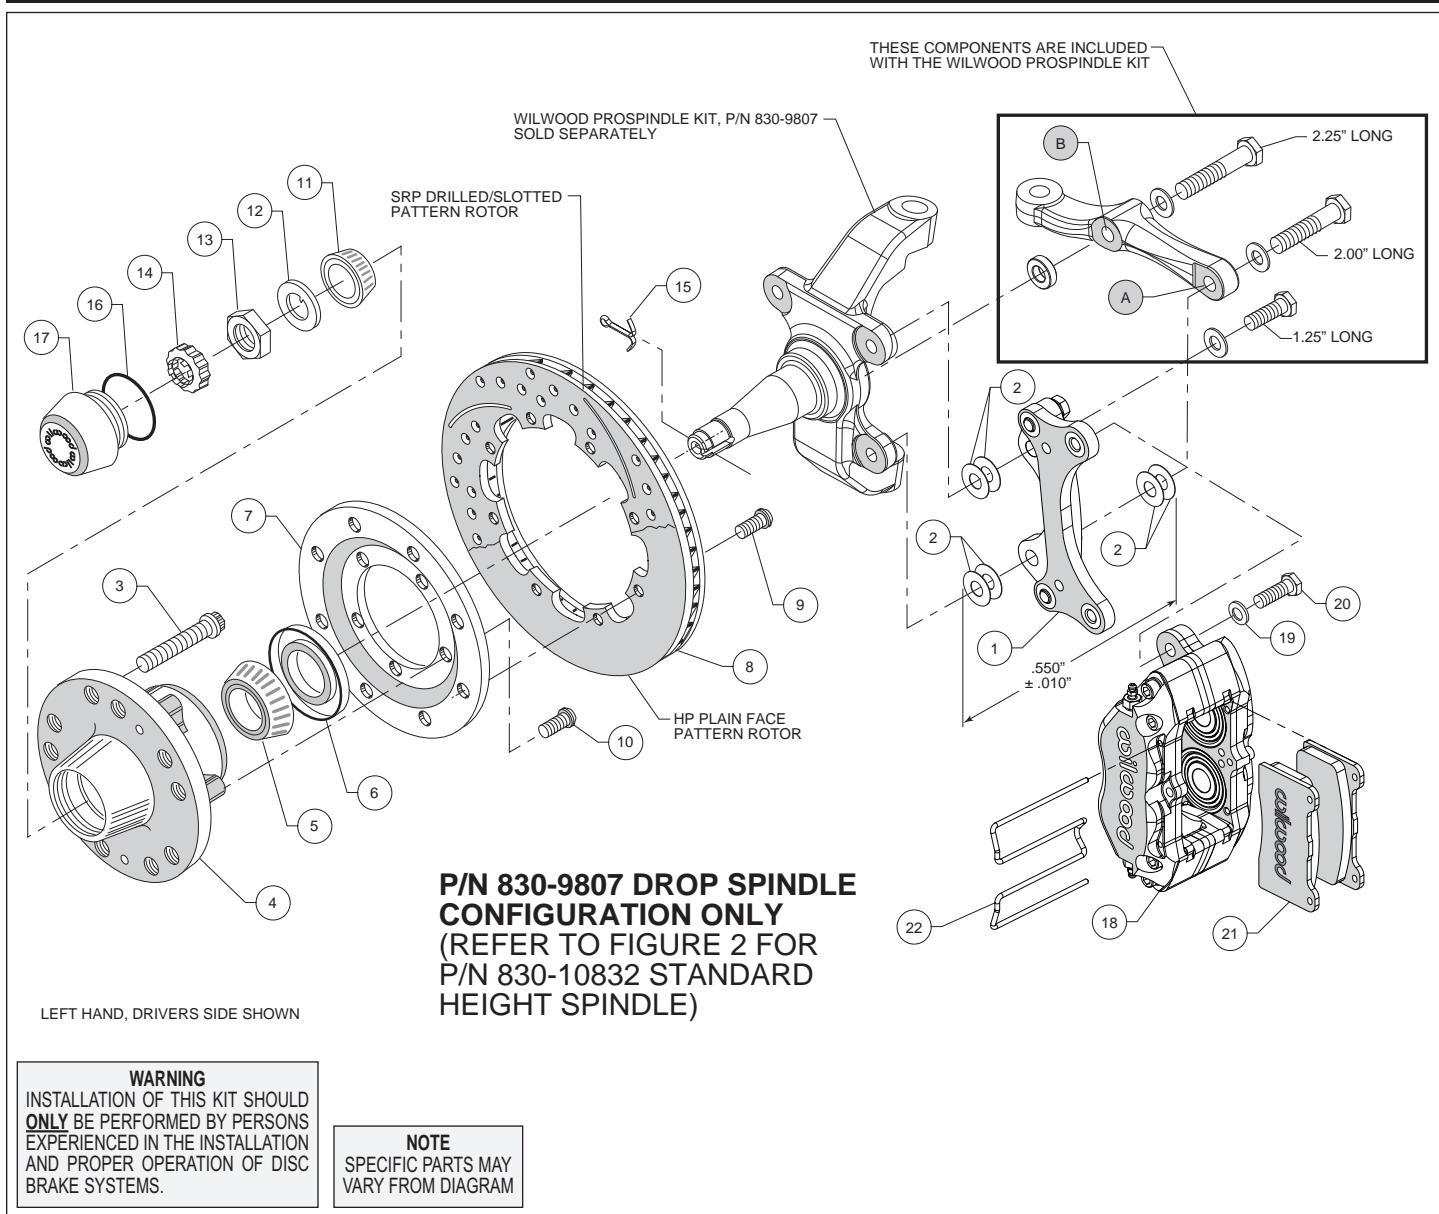
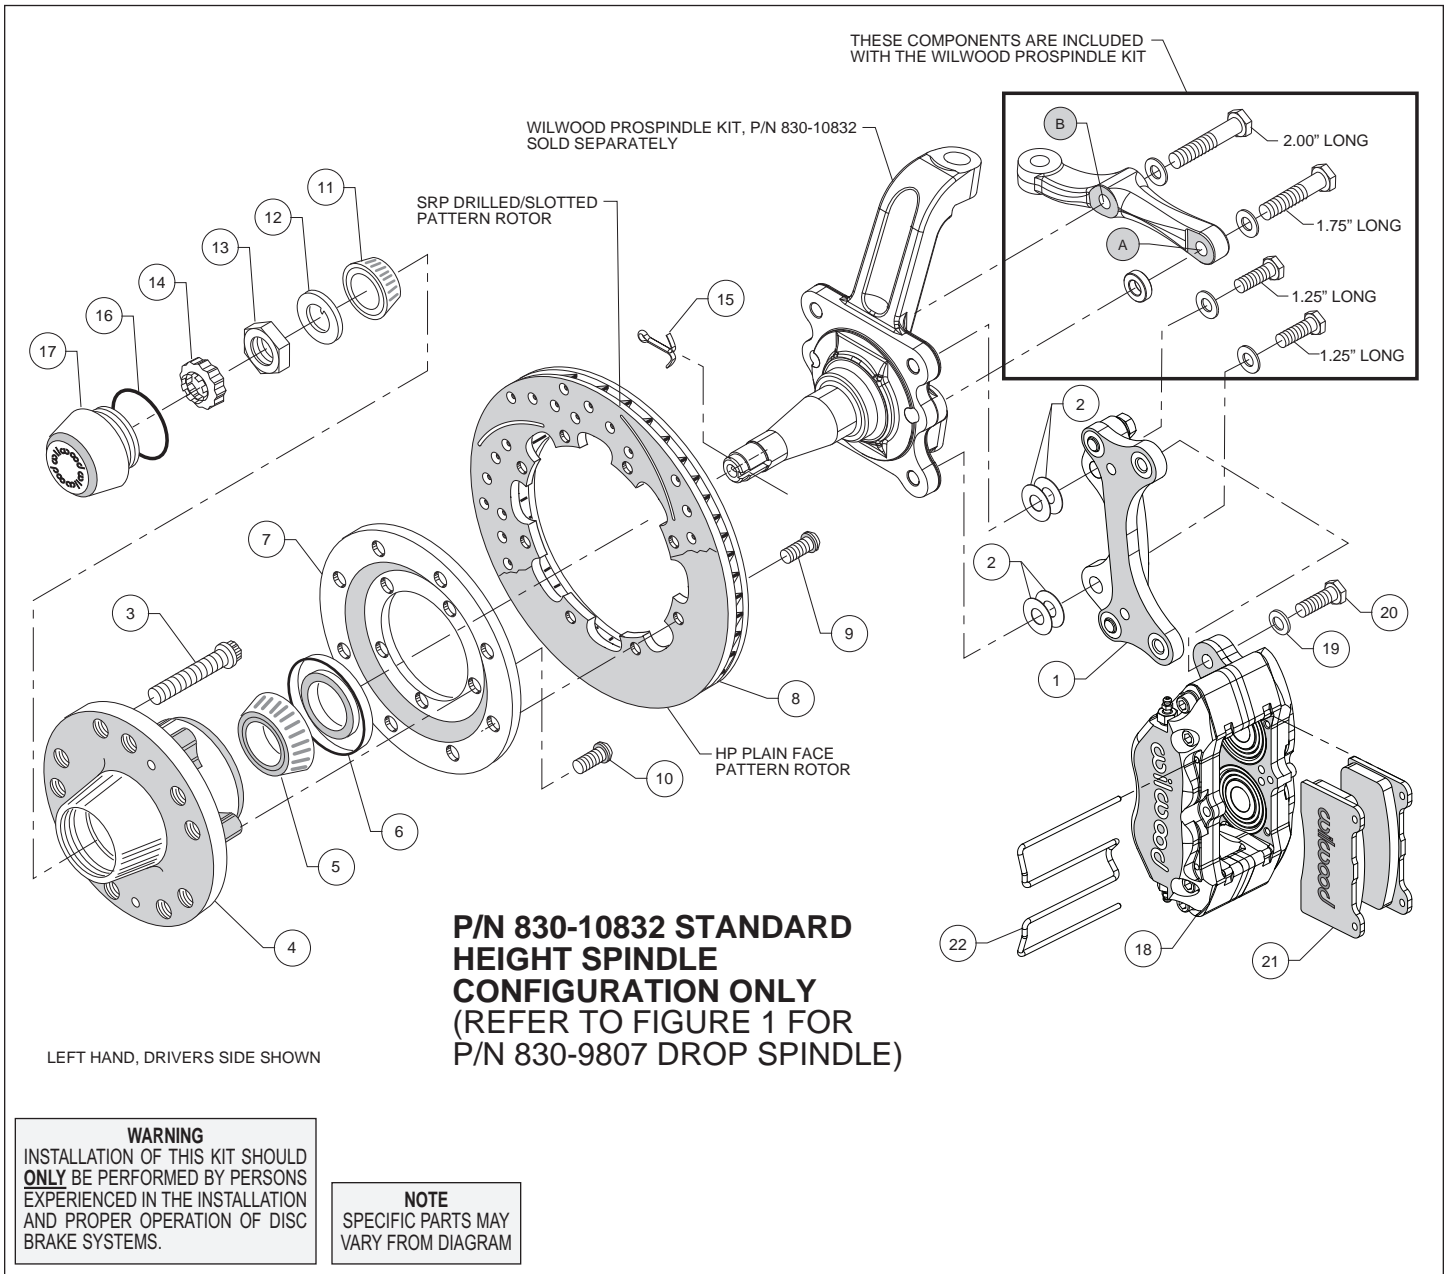

Figure 1. Installation Configuration For Drop Spindle, P/N 830-9807
Figure 2. Installation Configuration For Standard Height Spindle, P/N 830-10832
Assembly Instructions (numbers in parenthesis refer to the parts list and Figures 1 and 2 on the preceding pages):
•**NOTE:** Each Wilwood ProSpindle kit includes bolts, washers, and a spacer to mount the steering arm and caliper bracket. The various bolts are identified by length in the following instructions and in Figures 1 and 2.
- Orient the bracket as shown in Figure 1 and Photo 1. Install at top spindle hole using 1.25" long bolt and .06" thick washer (from ProSpindle kit), and two .016" thick shims (2) between the bracket and spindle, Figure 1.
- Orient the steering arm, and identify the hole marked 'A', as shown in Figure 1. Install at bottom spindle hole using 2.00" long bolt, .06" thick washer (from ProSpindle kit), two .016" thick shims (2) between the steering arm and the bracket, and another two more .016" thick shims (2) between the bracket and spindle, Figure 1. The bracket is located between the steering arm and spindle. **NOTE:** The bracket and shim washers must add up to a total thickness of .550" ± .010", Figure 1.
- Finish attaching the steering arm through the hole marked 'B', as shown in Figure 1. Install using 2.25" long bolt, .06" thick washer, and .25" thick spacer (all from ProSpindle kit), Figure 1.
- Orient the bracket as shown in Figure 2 and Photo 2. Install using 1.25" long bolts and .06" thick washers (from ProSpindle kit), and two .016" thick shims (2) on each bolt between the bracket and spindle, Figure 2. Temporarily tighten mounting bolts. **NOTE:** *The bracket must fit squarely against the mounting points on the spindle.* Inspect for interference from casting irregularities, machining ridges, burrs, etc. Later, after the caliper alignment has been checked, the mount bolts will be secured using red *Loctite*[®] 271.
- Orient the steering arm, and identify the hole marked 'A', as shown in Figure 2. Install using 1.75" long bolt, .06" thick washer, and .30" thick spacer (all from ProSpindle kit), Figure 2.
- Finish attaching the steering arm through the hole marked 'B', as shown in Figure 2. Install using 2.00" long bolt and .06" thick washer (from ProSpindle kit), Figure 2.
- Install wheel studs (3) into the hub (4), Photo 3. Torque to 77 ft-lb. **NOTE:** *There are two lug patterns of five holes each in the hub (5 x 4.50 and 5 x 4.75).* Make sure of the correct hole pattern for the wheel application before installing the studs into the hub.
- Pack the large inner bearing cone (5) with high temperature disc brake bearing grease (available from your local auto parts store) and install into the backside of the hub (4), Photo 4.
- Install the grease seal (6) by pressing into the backside of the hub (4), flush with the end of the hub, Photo 4.
- Orient the rotor (8) and the rotor adapter (7) as shown in Figure 1 or 2 and Photo 5. Attach the rotor to the adapter using bolts (9). Using an alternating sequence, apply red *Loctite*[®] 271 to the threads, and torque to 25 ft-lb.
- Mount the adapter/rotor assembly (7 and 8) to the hub (4) using bolts (10), as shown in Figure 1 or 2 and Photo 6. Using an alternating sequence, apply red *Loctite*[®] 271 to the threads, and torque to 45 ft-lb.
- Pack the small outer bearing cone (11) with high temperature disc brake bearing grease and install into front of hub (4). Slide the hub assembly onto the spindle. Secure using spindle washer (12) and spindle nut (13), Photo 7. Bearing adjustment: Tighten the nut while turning the hub. When there is a slight bind on the bearings, they are seated correctly. Back the nut off about 1/6 to 1/4 of a turn, or sufficiently to allow .001" to .007" end play. **WARNING:** *Failure to back off adjusting nut could cause bearing to run hot and be*
- Screw dust cap (17) into hub (4), Photo 8. Friction created by the o-ring (16) on the dust cap keeps it from unscrewing.
- NOTE:** Please reference the caution statement at the beginning of the assembly instructions. Mount the caliper (18) onto the caliper mounting bracket (1) using bolts (20) and washers (19), as shown in Figure 1 or 2. Temporarily tighten the mounting bolts and view the rotor (8) through the top opening of the caliper. The rotor should be centered in the caliper, Photo 9. If not, proceed as follows: